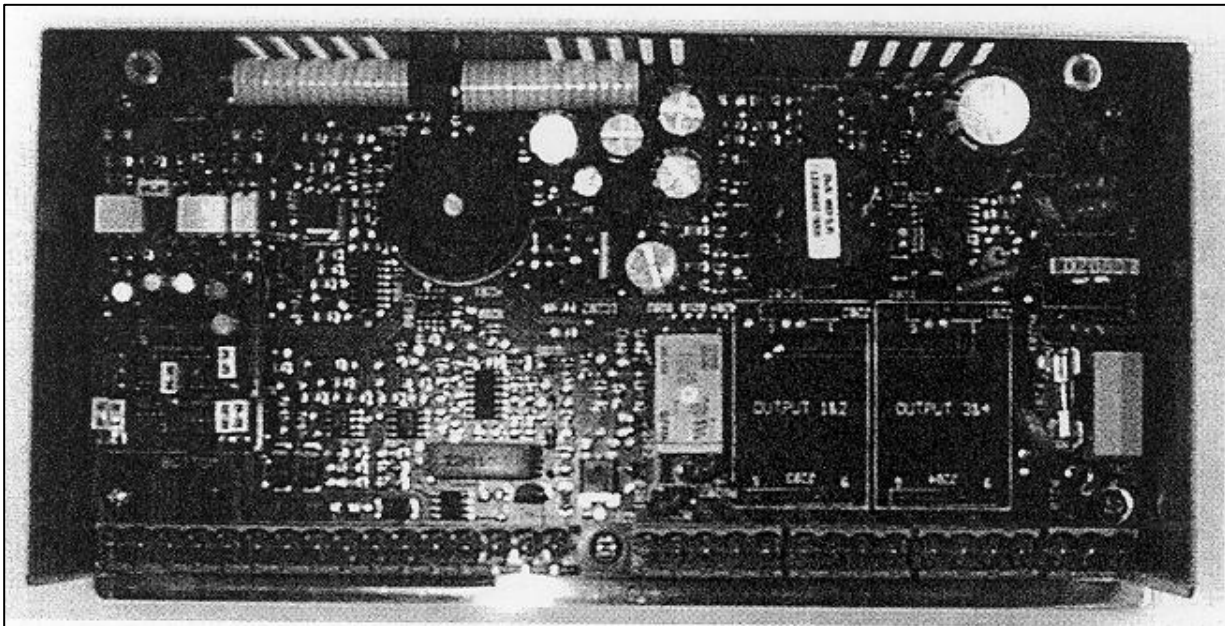

Figure 43. Controller rear view with Communications Card (left).
- c. Refer to Figure 43 for placement information. Be sure the card is seated firmly onto the headers.